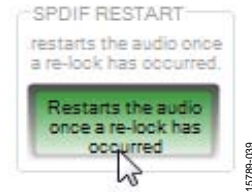

Figure 37. Activating the **SPDIF\_RESTART** Register
- c. Enable the **SPDIF\_RESTART** register by clicking **Do not restart the audio once a re-lock has occurred** in the **SPDIF RESTART** box. When this button is clicked, the text displayed on the button changes to **Restarts the audio once a re-lock has occurred** and the button color changes from red to green (see Figure 37).